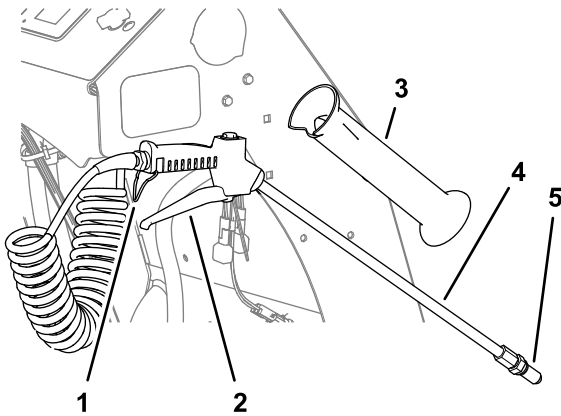

Figure 59
1. Remove the wand from the holder at the right side of the machine (Figure 59).
4. Squeeze the trigger to the spray-wand handle to begin spraying; lock the trigger in place if desired (Figure 59).
5. When finished spraying, if you locked the trigger of the spray-wand—unlock it, and release the trigger (Figure 59)
7. Insert the wand into the wand holder (Figure 59).